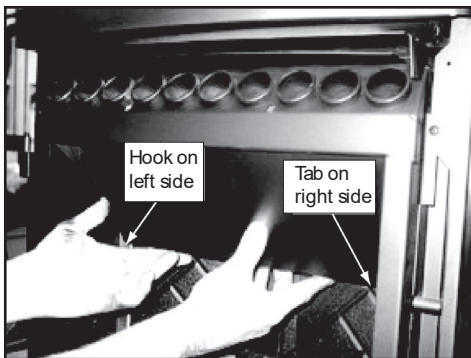

Figure 26.1
2. The top baffle has a hook on the bottom left side that rests on the top lip of the cast brick. There is a tab on the bottom right side that hooks into the side bracket. Remove the top baffle by first pulling the baffle forward until back edge drops down. Then slide baffle back until the front edge clears the shelf that it had been resting on (**Figure 26.1**).